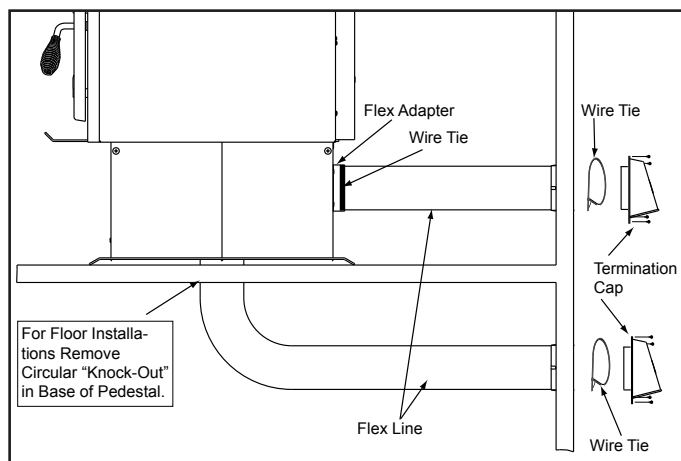

Figure 39.1 - Floor & Rear Installation
2. Using a #2 Phillips screw driver attach the flex adapter to the appliance using 4 screws. Secure with wire tie. **Figure 39.1.**
5. **Floor Installation Alternative:** In some instances you may not be able to install the flex pipe as show in **Figure 39.1.**